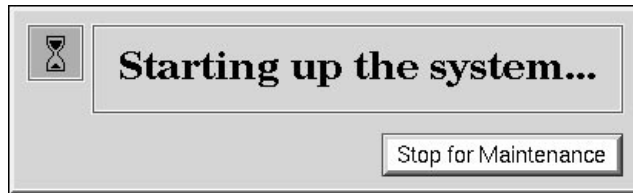

Figure 8-5 Starting Up the System Notifier
4. When you see the notifier shown in Figure 8-5, click *Stop for Maintenance*, or press **<Esc>**.